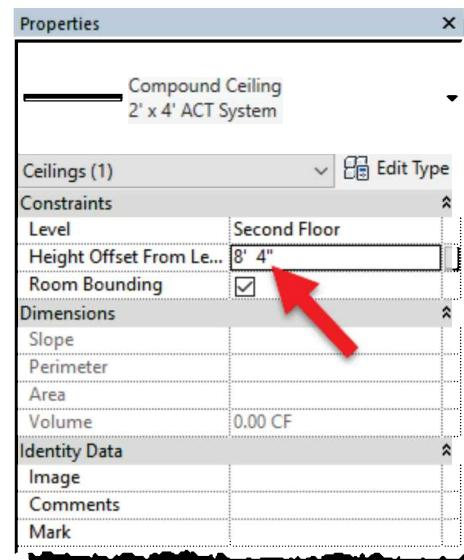

FIGURE 9-2.3 Ceiling: Properties
5. In the *Properties Palette*, set the *Height Offset From Level* setting to **8'-4"** (Figure 9-2.3).